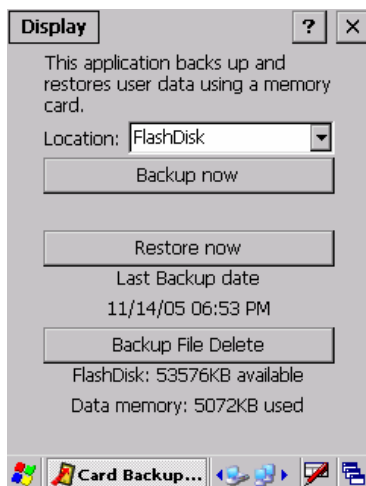

Fig. 4.87
1. Specify the backup destination in **Location** field (see Fig.4.87) and tap **Restore now** button.